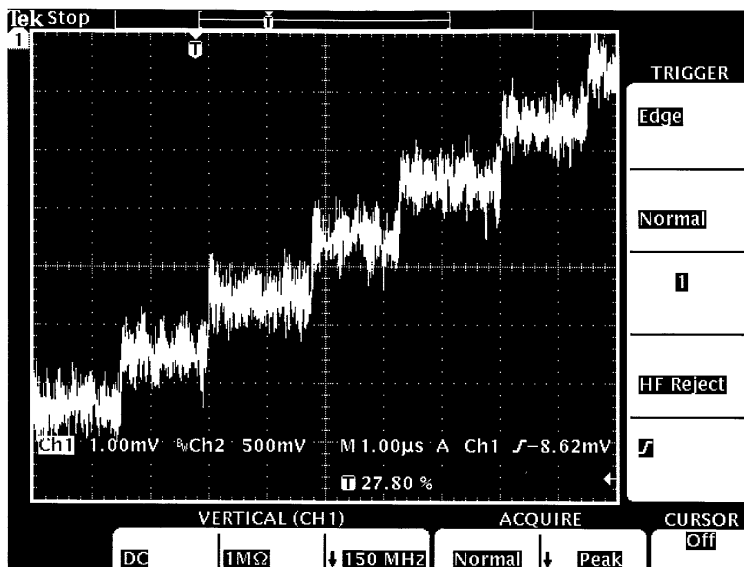

Figure 8. Example of stair-step quantization noise from a 40 MHz, 12 bit DAC. Each transition results in high-order harmonics.
- B. Discrete steps with fast rise and fall times result in high order harmonic content (See Figure 8).